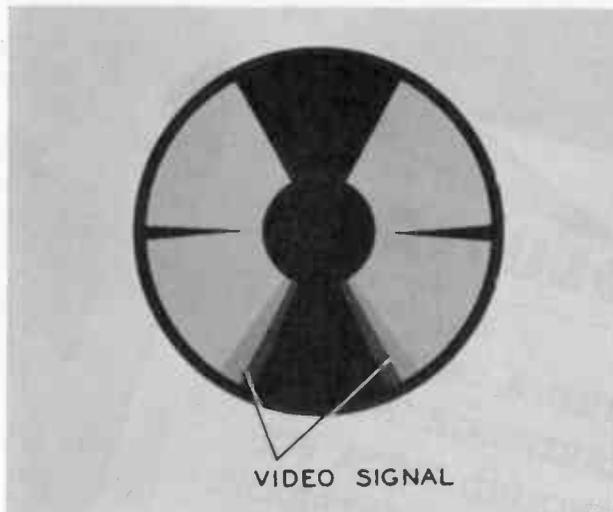

Figure 6. Image on Pix Eye Screen.
One preliminary test calls for measuring the high voltage which is applied to the second anode of the picture tube. A voltmeter equipped with a high voltage probe is necessary for this measurement. A second preliminary test may be made with the device pictured in Figure 5. This piece of equipment is a product of Radio Merchandise Sales, Inc., of New York and is distributed under the name, RMS Pix Eye. The initial step in using this device is to detach the socket from the picture tube base and plug the Pix Eye into the socket. Then with the set turned on, watch the fluorescent screen of the eye tube. An image similar to the one shown in Figure 6 should appear. The following is a list of the various socket voltages which are checked by the Pix Eye.
4. The presence of a video signal will be evidenced by a shading on the edges of one of the dark wedges. (See Figure 6.) With adjustment of the contrast control, the shaded edges will vary in width.